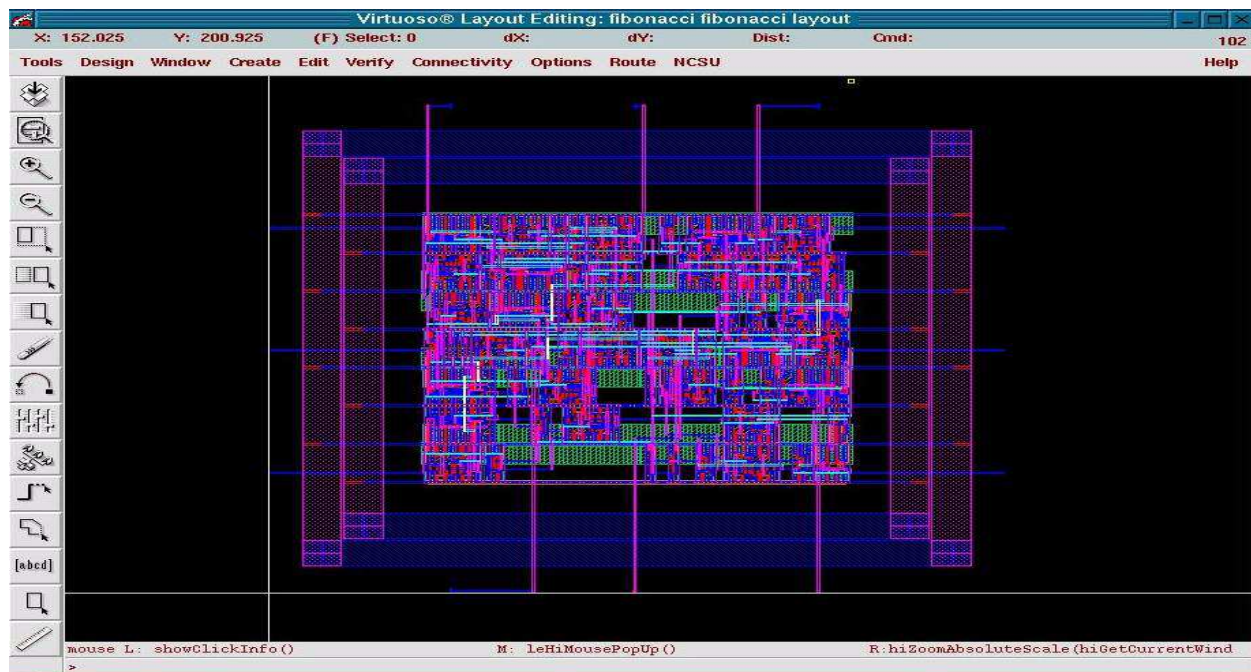

Figure 8: Automatically generated layout of a 10-bit Fibonacci counter.
2. Open the layout cellview of the fibonacci cell. You should see a layout like the one in Figure 8 (again, if you only see the black box view of the cells, press 'shift-f' to show everything and 'ctrl-f' to go back). Here, the area in the middle that is occupied by the cells is usually called the core area.